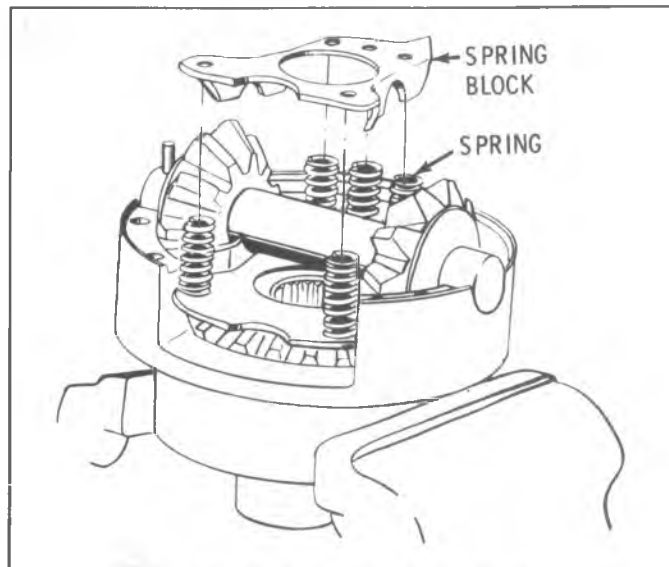

Fig. 4B6-18--Spring and Spring Block
2. Place one spring block in position over gear face, in alignment with pinion gear shaft grooves. Install pinion shaft, pinion gears and thrust washers into cap half or differential case in such a manner that pinion shaft retaining dowel can be inserted through pinion gear shaft into differential case. This prevents pinion shaft from sliding out and causing damage to carrier (Fig. 4B6-17).